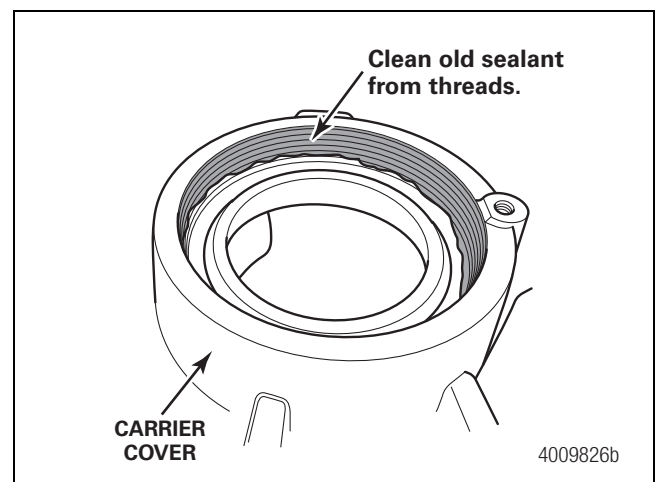

Figure 11
9. Place a rag in the carrier cover opening to prevent debris from entering the bearing area during the cleaning process. Use a pick or other suitable tool to clean the old sealant from the axle carrier mating threads in the cover. Do not use air tools to clean the threads. After the old sealant is removed, use brake cleaner to thoroughly clean the cover threads and allow the threads to dry. Figure 11.